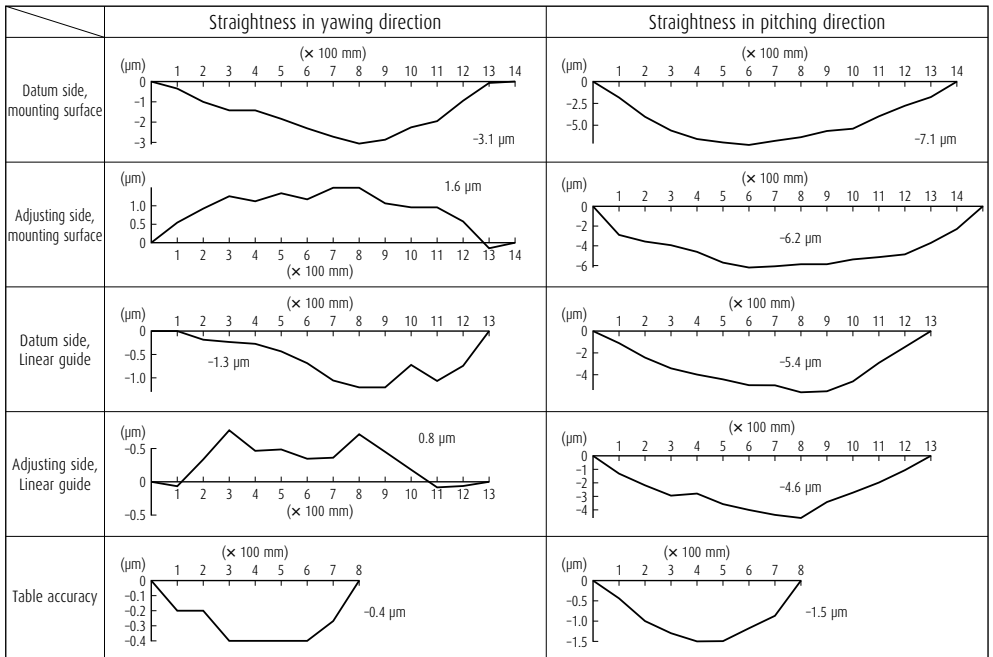

Fig. 9 Straightness of the table equipped with linear guide
- Fig. 9 shows an actually measured straightness of the table which uses NSK linear guides. In this case, the final straightness of the table is about 1/5 of the straightness of the mounting surface.